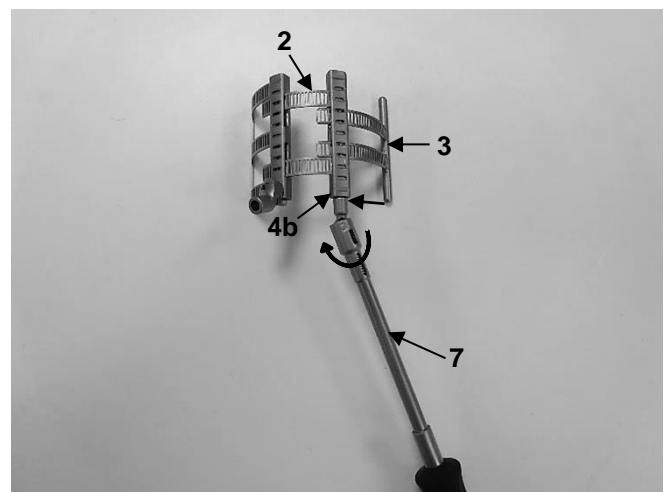

Fig. 18
2. Then insert the secondary element (3) into the primary element (2) and retract it using the appropriate screwdriver (7). To do this, turn the transport mechanism on the box module of the primary element (4b) counterclockwise using the screwdriver (7) (Fig. 18).